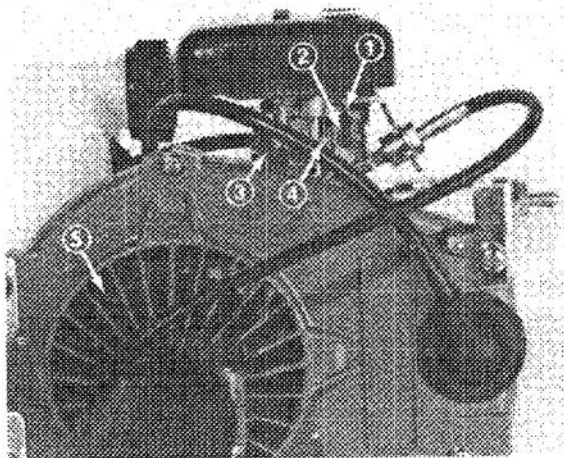

Figure 33
1. Turn low and high speed needles (L and H) clockwise gently until they are lightly seated (Fig. 33) and back them out one full turn.
2. Turn idle speed adjusting screw until screw tip lightly contacts indexing plate of throttle shaft and turn the screw clockwise three additional turns (Fig. 33).
3. Start engine, turn idle speed screw counterclockwise until cutter head stops rotating (Fig. 33). Allow engine to run at idle speed for at least three minutes to make sure engine is thoroughly warm.
4. Adjust low speed needle (L) to obtain maximum, consistent idle speed (Fig. 33).
5. Turn idle speed screw counterclockwise one turn from clutch engaging position (Fig. 33).
6. Turn low speed needle (L) counterclockwise in small increments until smooth acceleration is obtained (Fig. 33).
7. Adjust high speed needle (H) until engine runs slightly on the rich side (four-cycles) under no load at full throttle position (Fig. 33). Engine should four-cycle slightly at full throttle so that optimal engine performance is obtained during cutting operation.
To avoid overheating and possible engine damage, visually inspect the cooling air inlet for debris obstructing the air passages (Fig. 33) and also the cooling fins around the cylinder after each use. Remove any contamination by using a flat piece of wood shaped so it will pass between the fins or use compressed air.